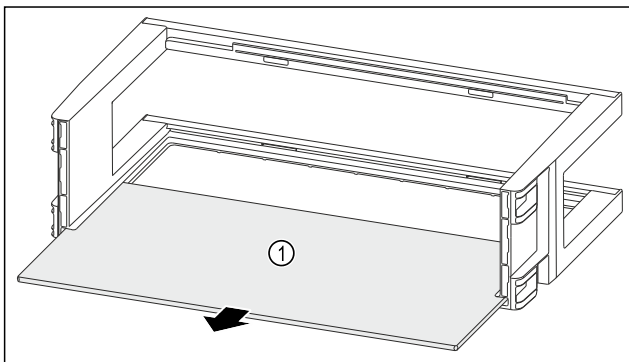

Fig. 131
- ▶ Remove the shelf *Fig. 131 (1)*.